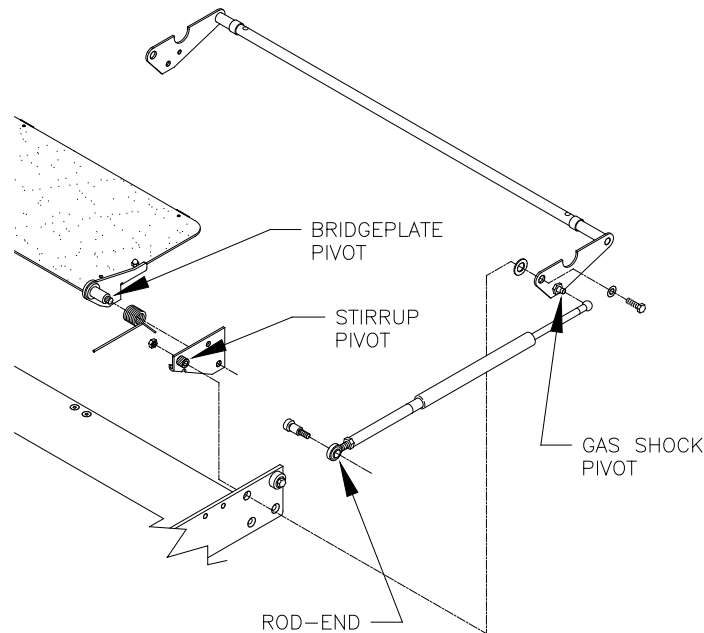

FIGURE 4-28: ACTUATOR ROD AND STIRRUP HARDWARE ASSEMBLY
- 5) Refer to **Figure 4-28**. Loosen the hardware on left side of Rollstop Bridgeplate to detach Actuator Rod and Stirrup assembly from platform.
- 12) Refer to **Figure 4-28**. Re-attach actuator rod assembly onto stirrup.
- 2) Remove power from the lift controls. Refer to **Figure 4-28**. Lubricate the points indicated in the figure with light grease (ZEP PLS, P/N 497C, Curtisol[®] Red Grease P/N 88167, or equivalent). Wipe off excess grease. Repeat for other side of bridgeplate.